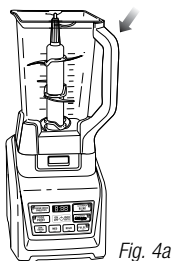
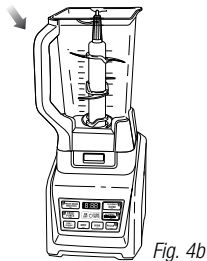

Fig. 4a
Fig. 4b
- 7 The pitcher can be placed on the motor base two ways; the handle can be on the front right corner or the front left corner. **(Fig. 4a, Fig. 4b)**